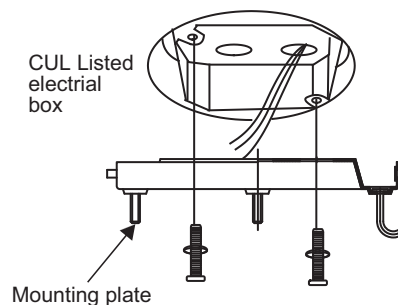

Fig. 5
Step 1. Attach the mounting plate to the outlet box with the screws and washers provided with the outlet box. Make sure the mounting plate is tight and secured. (Fig. 5)